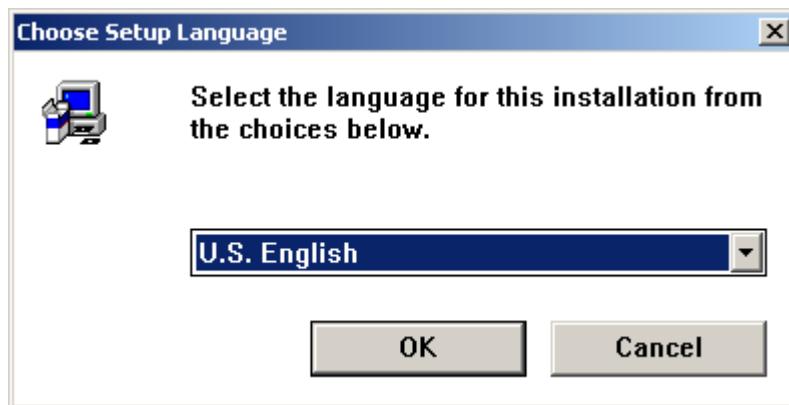

Figure 2-68 [Choose Setup Language] dialog box
- 1) Double-click Setup.EXE. The [Choose Setup Language] dialog box is displayed. The iGWB supports two languages: simplified Chinese and U.S. English. Select [U.S. English]. See Figure 2-68.